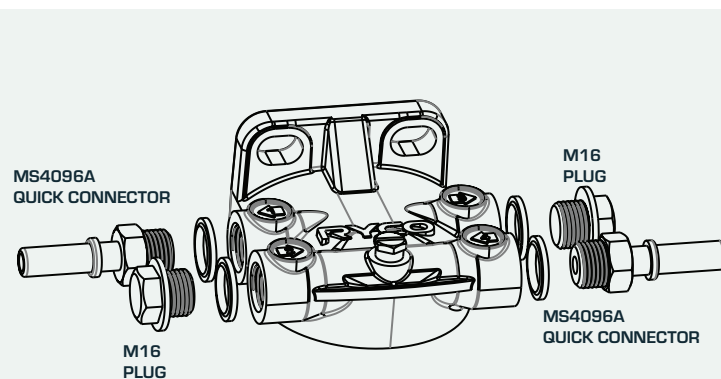

FIGURE 1A
- 3 Install the Ryco fuel water separator head with metal quick connectors, blanking plugs and rubber bonded washers as shown in FIG. 1A. Tighten blanking plugs (on port 2 & 3) and quick connectors (on port 1 & 4).